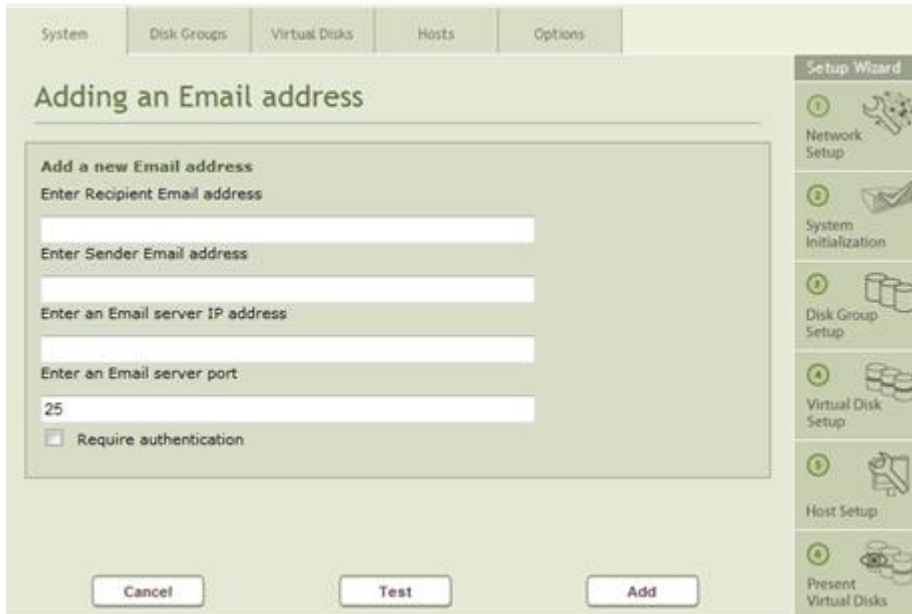

Figure 80: Adding Email Addresses
2. Click on "Add" to bring up the add user page as shown in Figure 80: Adding Email Addresses.
- Click on the "Add" button as shown in Figure 80: Adding Email Addresses